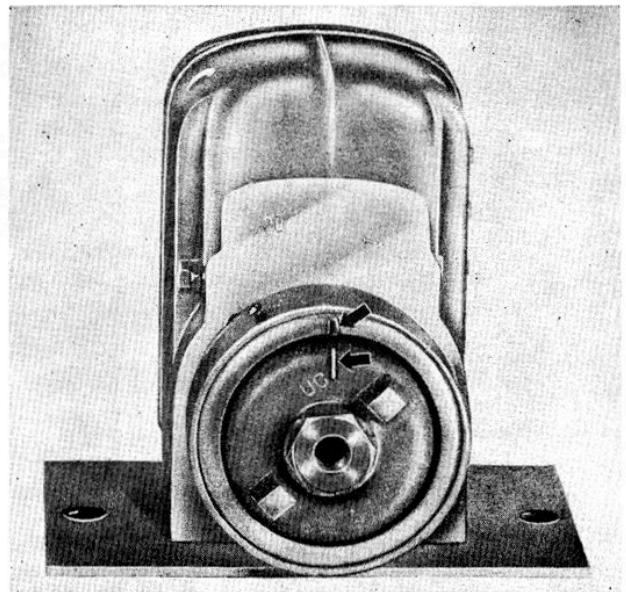

FIG. 4—FAIRBANKS-MORSE MAGNETO
- d. Turn magneto coupling to the right (clockwise) by hand until the timing mark on drive member is in perfect alignment with timing mark on impulse starter housing. (See figure 4.)